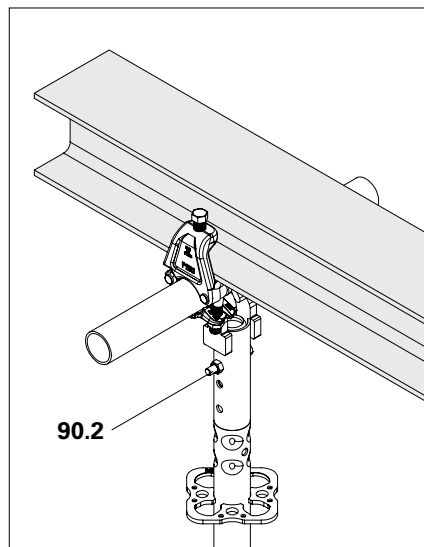

Fig. A11.01c
3. Attach the suspended scaffold with locking pin and self-locking nuts in one of the holes (90.2). (Fig. A11.01c)